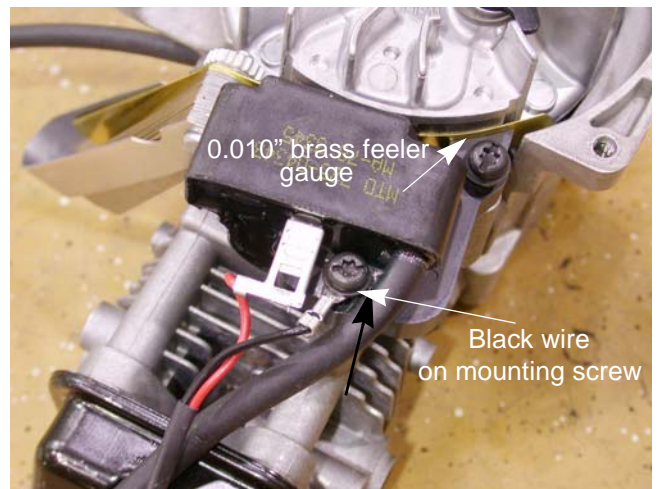

Figure 4.6
NOTE: Make sure the black wire is on the proper mounting screw. See Figure 4.6.
6. Place a non-magnetic, 0.010" feeler gauge on the flywheel magnets and rotate the flywheel until the magnets line up with the module. Let the magnets draw the module against the flywheel with the feeler gauge trapped between them. See Figure 4.6.